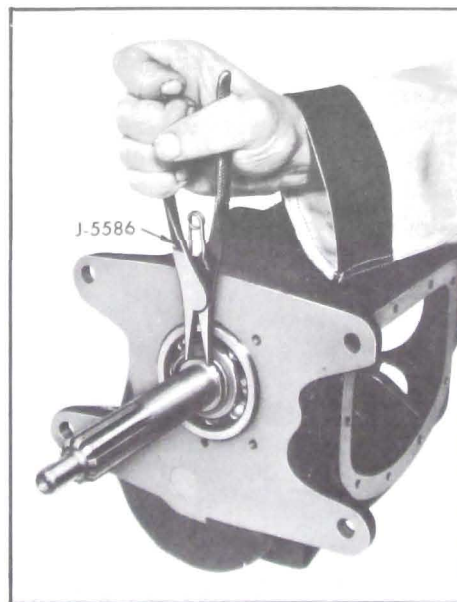

Figure 4-125—Removing Main Drive Gear Snap Ring
13. Remove the main drive gear snap ring (see Figure 4-125), and remove spacer washer.